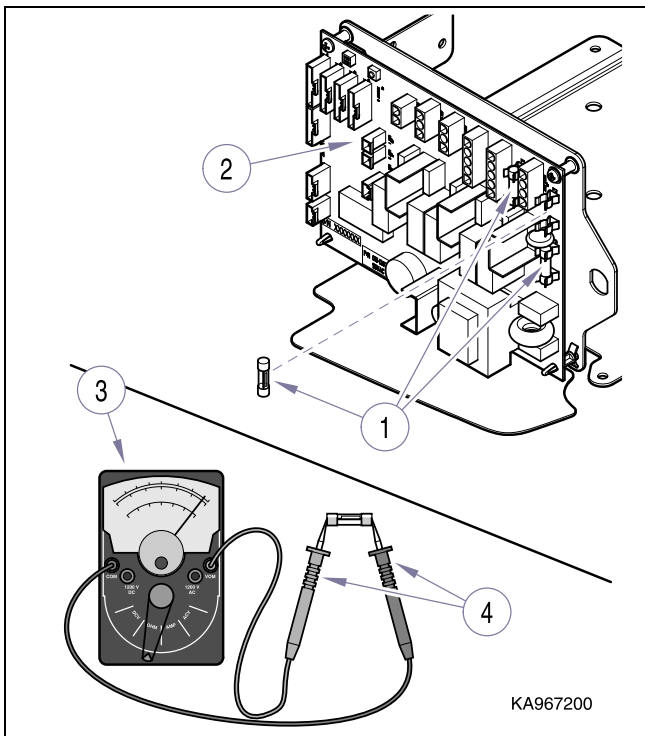

Figure 4-18. Fuse (P.C. Board)
- (4) Remove fuse(s) (1, Fig. 4-18) from the P.C. board (2).